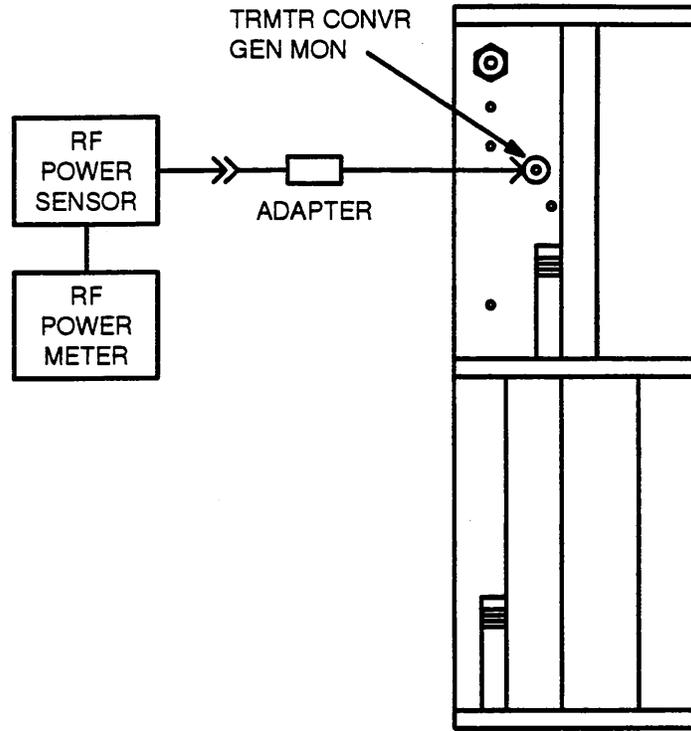

Figure 1-MWV GEN Power Output Check
- Refer to Figure 1.
2. Condition the test equipment to measure the expected power level (normally -3 through +3 dBm), and connect it at the GEN MON jack (Figure 1).